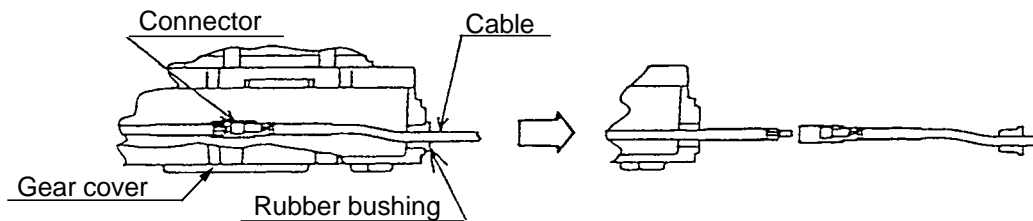
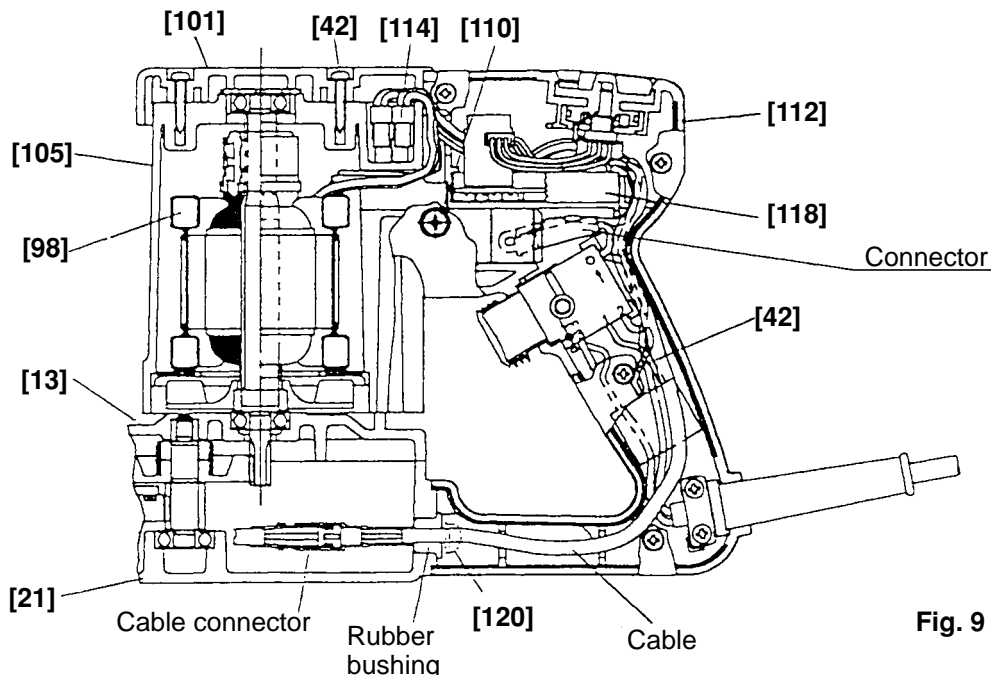

Fig. 8
Fig. 9
#### (1) Disassembly of the handle (Fig. 9)
- (b) Remove the two Tapping Screws (W/Flange) D5 x 20 (Black) **[111]**, four Tapping Screws (W/Flange) D4 x 20 (Black) **[42]** and two Machine Screws (W/Washers) M5 x 20 (Black) **[122]** to remove the Handle (A).(B) Set **[113]**.
#### (2) Disassembly of the power supply unit (Fig. 8)
##### (b) Disassembly of the housing (Fig. 9)
- (a) Be sure to put the connectors in the specified position when connecting the connector of the Cord [125] to the connector of the Controller Circuit [119] (Fig. 8).